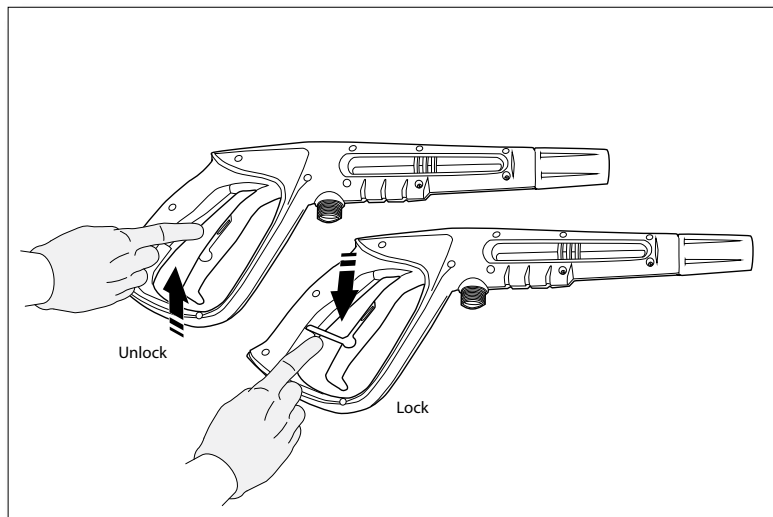

Fig. 22
- Release the safety push trigger lock up and back into trigger. (*Fig. 22*). While pointing the spray gun in a safe direction, squeeze the trigger on the spray gun until there is a steady stream of water, letting the water and air out of the hose. Push trigger lock back down to lock back into place.
- Turn the power switch to the ‘ON’ (I) position. The unit will turn on for 1 - 2 seconds and shut off, this is a normal function of the (TSS) auto start feature. Squeeze the spray gun trigger to begin pressure washing.